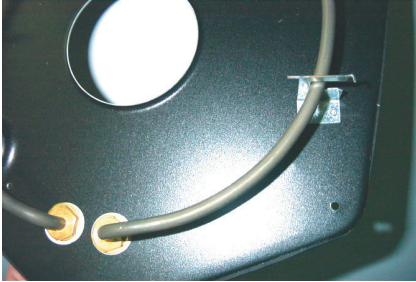

Figure 14 - Heating Element and Bracket
- 7. Tubular heating element must be flush against bracket (see Figure 14). This centers the element to the center hole in metal pan.